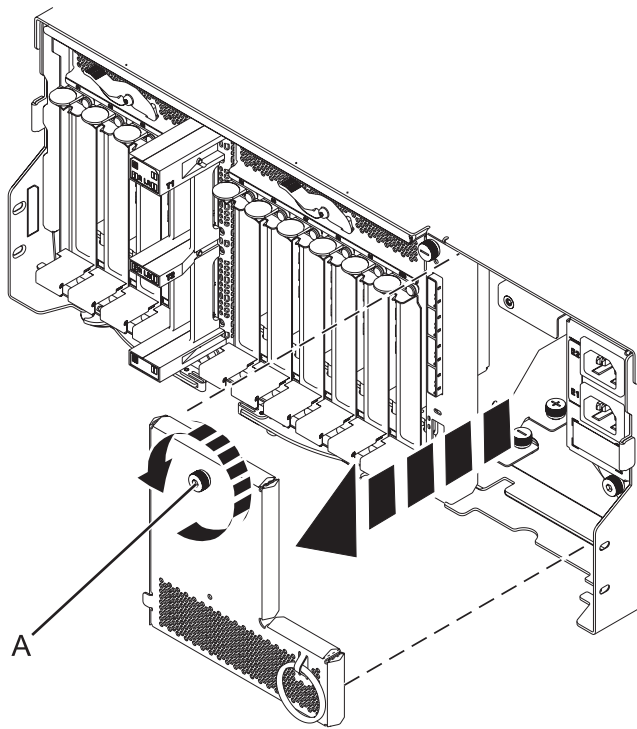

Figure 80. Removing the power cord plate
10. Remove the power cord plate by turning the thumbscrew (A) and pulling the plate away from the system, as shown in Figure 80.